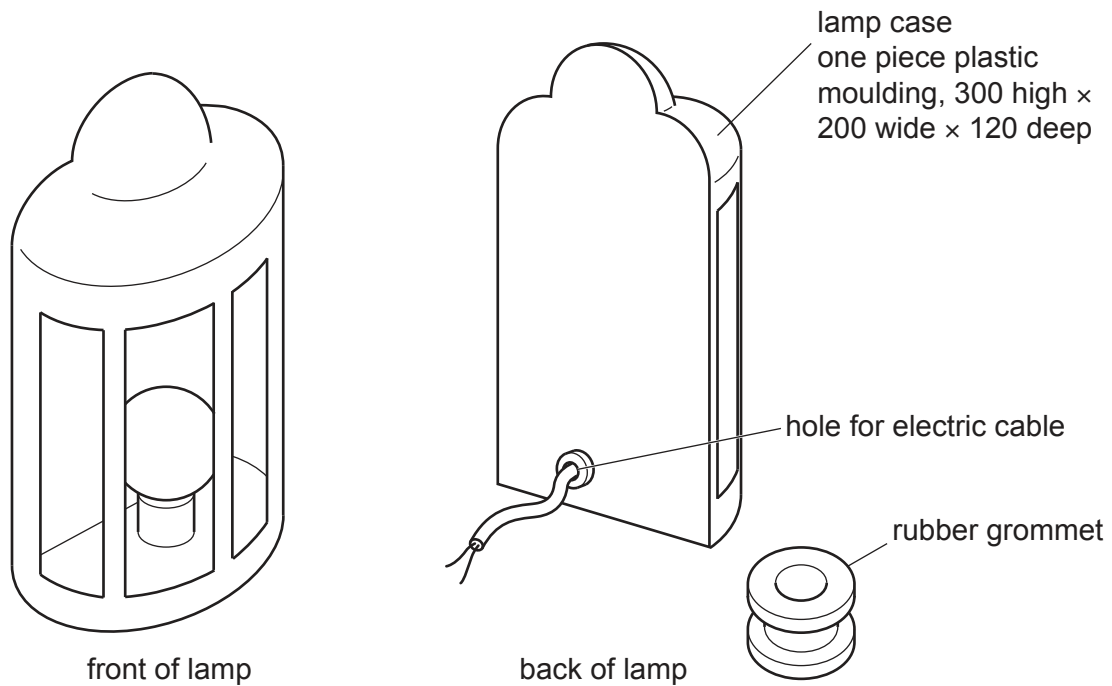

Fig. 6.1
- 6 Fig. 6.1 gives details of an incomplete design for a lamp that is fastened to a house wall. The lamp is powered by mains electricity and detects movement.